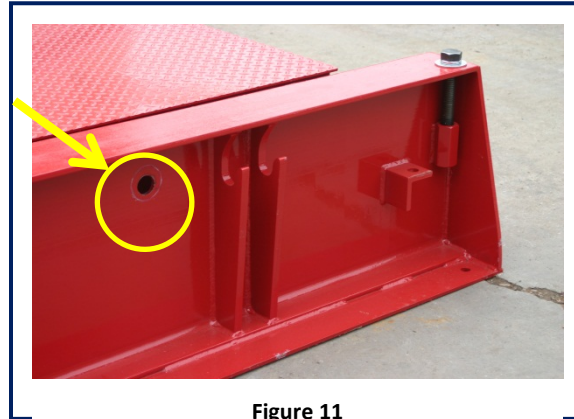

Figure 11
8. Cover bulkhead shipping bolts original location with duct tape to prevent material from migrating into bulkhead. See Figure 11.